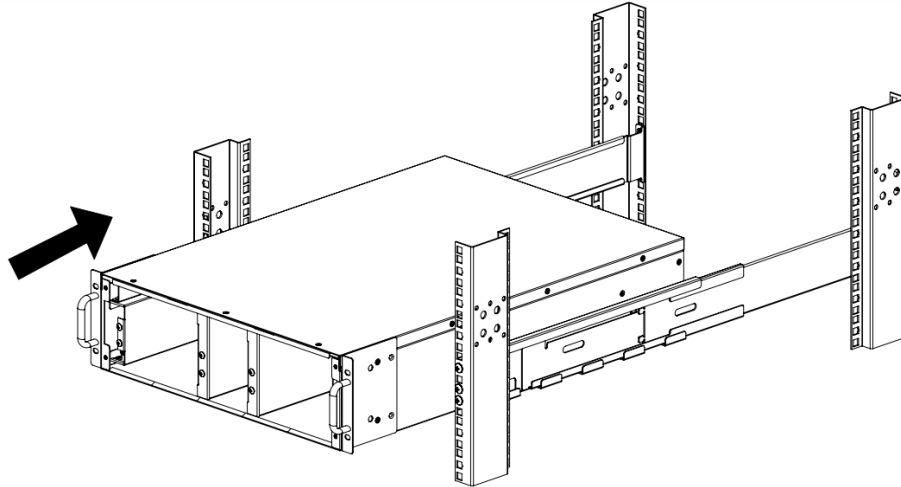

Figure 33: Slide EBP into the Rack
25. Slide the EBP into the rack on the rail kit (see Figure 33).